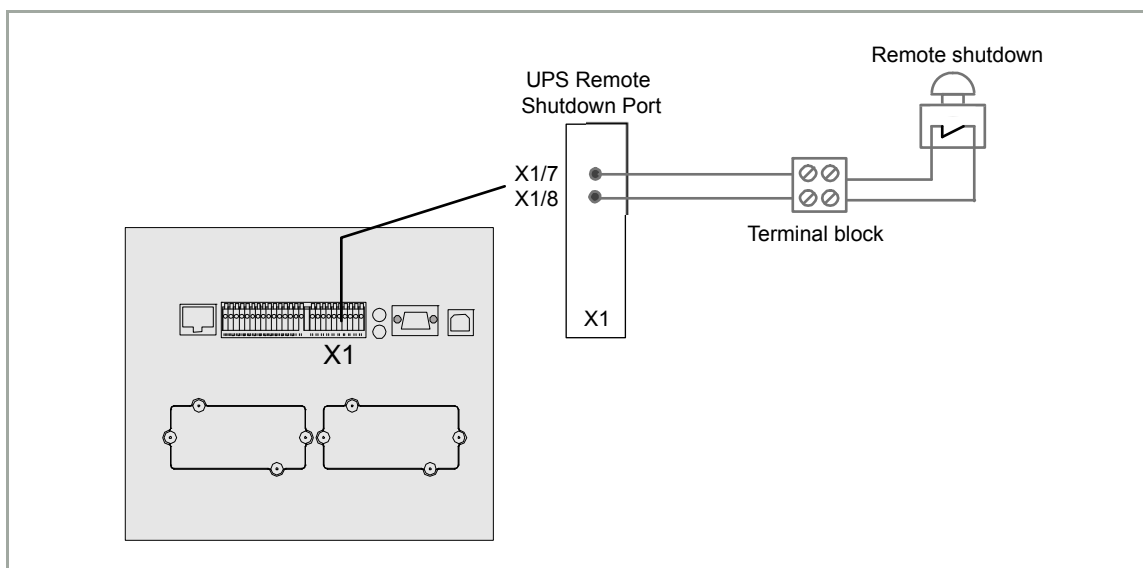

Figure 7.1 Remote Emergency Stop cabling
2. Connect the cable as shown in Figure 7.1.